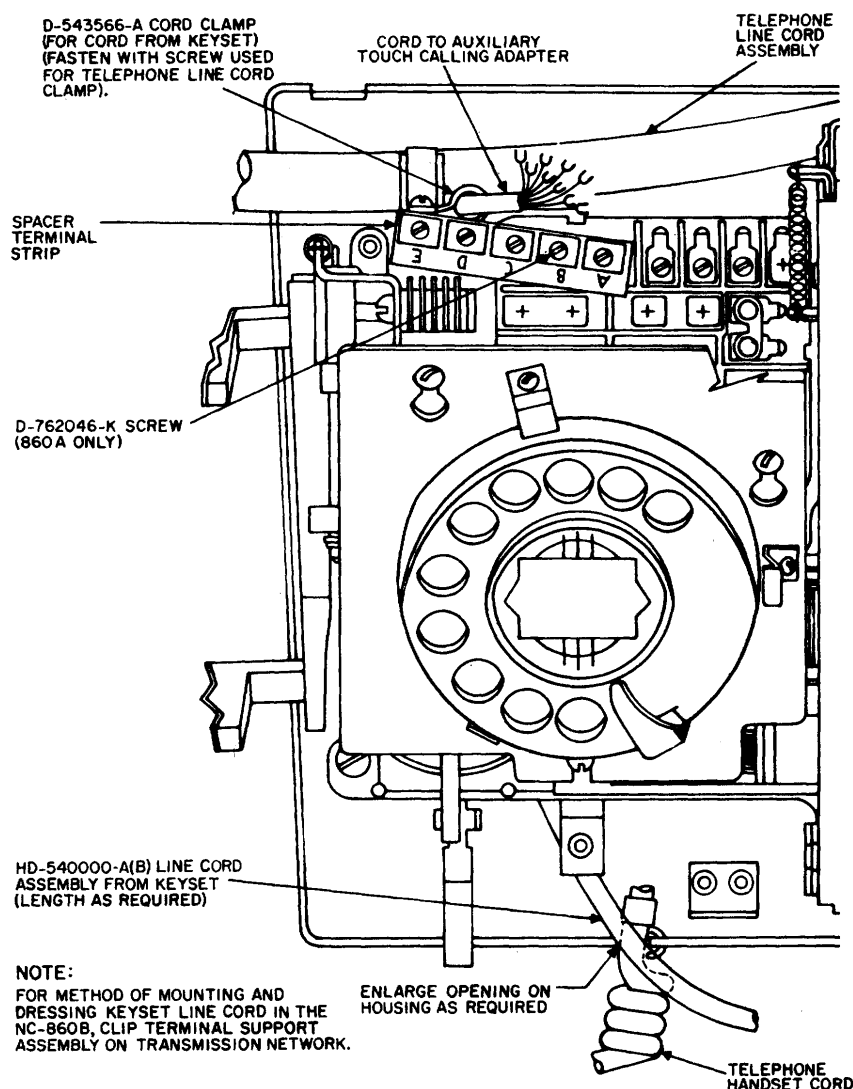

Figure 15. Routing and Securing Cord from Auxiliary Touch Calling Adapter to Type 860A and 860B Telephones.
- (a) Route and secure the adapter's cord to a Type 860A telephone as shown in Figure 15.
- (a) Route and secure the adapter's cord to the 860B telephone as shown in Figure 15.